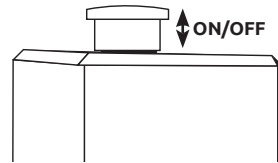

figure 2
- ▶ Open the outlet valve, set the knob of the pressure switch in position "ON" (Fig.2) and let the compressor run for 10 minutes with no load, in order to ensure the lubrication of the moving parts before regular service.